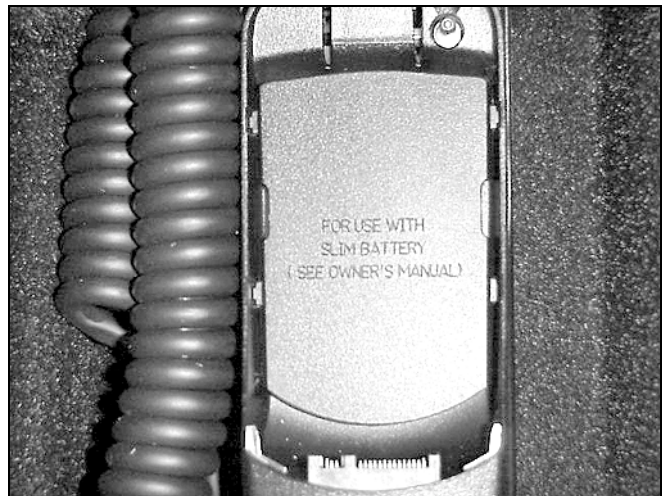

Figure 14
13. Install the battery insert plate marked "FOR USE WITH SLIM BATTERY" when using the slim battery (500 mAh) with the telephone (Figure 14).
**Note:** The embossed text on the installed battery insert plate must face up as in Figure 14.